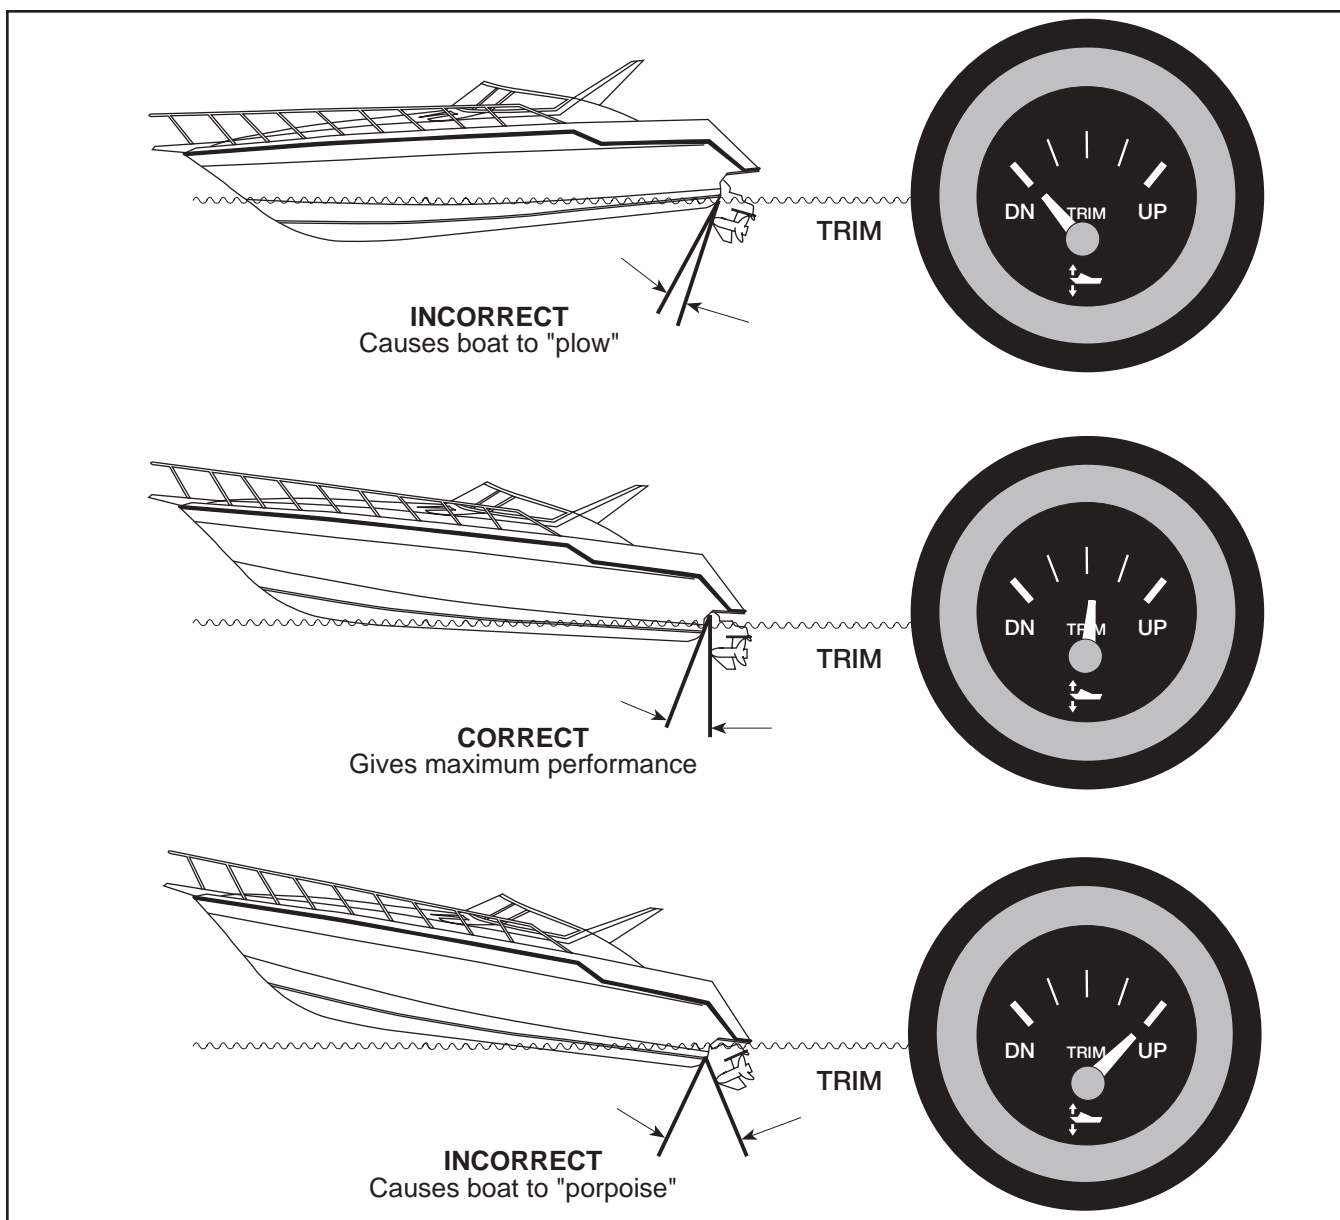

FIGURE 10.3 TRIMMING THE BOAT OUTDRIVE
3. In the case of low or heavy bow attitude, the boat tends to “plow” (**Figure 10.3**). The lower unit is trimmed too far under or forward. Trim the unit UP (out) to correct this situation.
4. If the bow is too high, the boat tends to “porpoise” (**Figure 10.3**). The drive unit is trimmed up or out too far. Trim DN (in) to correct.